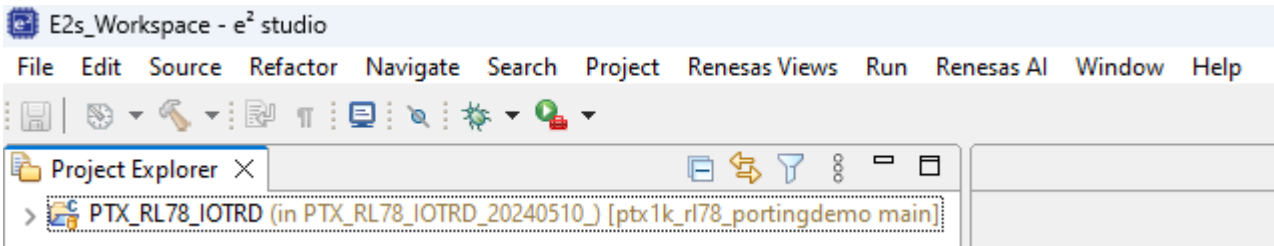

Figure 5. Project Explorer – Imported Project
- Figure 5. Project Explorer – Imported Project4
7. In the *Project Explorer* tab, the imported project will be displayed as shown in Figure 5.